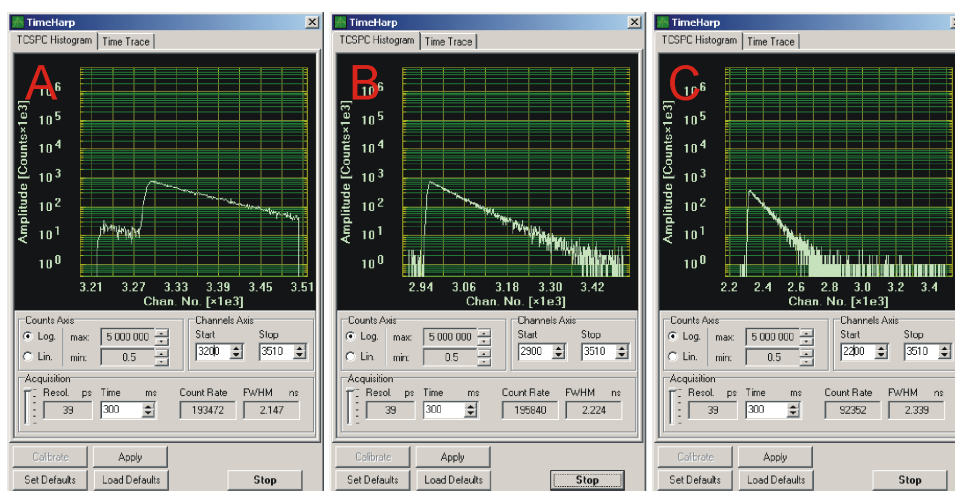

Fig. 2.5: Fluorescence decay at too high (A, 80 MHz), optimal (B, 40 MHz) and unnecessary low (C, 20 MHz) laser repetition rate.
This is illustrated in Fig. 2.5. At 80 MHz laser repetition rate, the fluorescence does not decay completely before the end of the time window is reached. Due to a “wrap around” the decay tail is observed even before the actual pulse (A). At 40 MHz the **time window is optimally adapted** (B), while at 20 MHz the fluorescence has already decayed at less than half of the detection window (C). Therefore 40 MHz would be the optimal repetition rate in this case.
You can check the decay behavior of your sample using the oscilloscope window of the SymPhoTime software (select: ). Activate the TCSPC Histogram-tab and monitor the fluorescence decay as shown in Fig. 2.5.